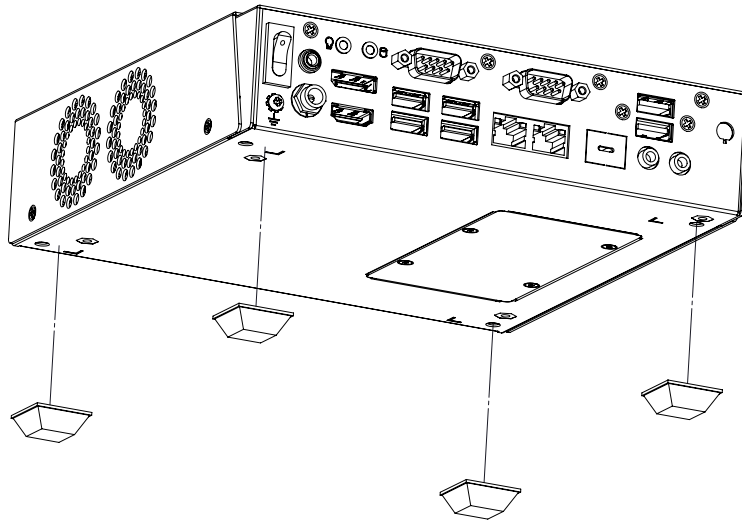

Figure 2.7 Installing Rubber Foot on Bottom Side/
- Figure 2.7 Installing Rubber Foot on Bottom Side/